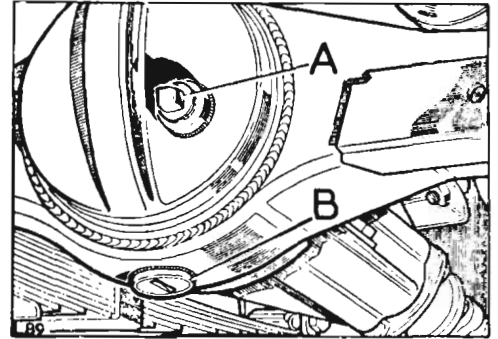
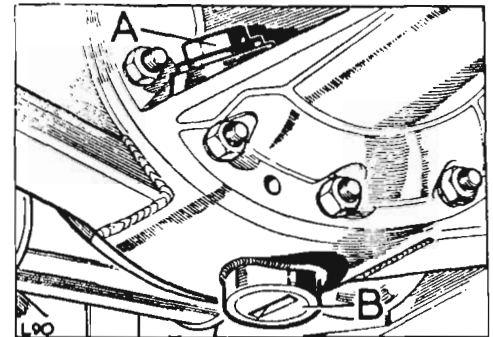

Fig. 44. Front differential oil filler-level plug
Fig. 45. Rear differential oil filler-level plug
Check oil level and top up if necessary to the bottom of the filler plug hole. The rear axle filler-level plug (A) Fig. 45 is on the right-hand side of the differential casing and the front axles plug (A) Fig. 44 is at the front of the axle casing.
1. Immediately after a run, when the oil is warm, drain off oil by removing the drain plugs (B) Figs. 44 and 45 in the bottom of the axle casings.
2. Replace the drain plugs, remove filler-level plugs (A) Figs. 44 and 45 and refill with oil of the correct grade; the capacity is approximately: